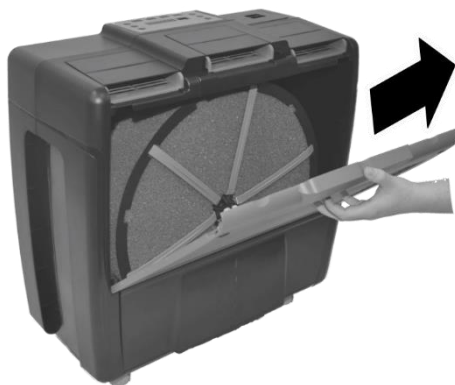

Fig. 14: Lifting out the discharge grille
2. → Lift out the discharge grille upwards (Fig. 14).